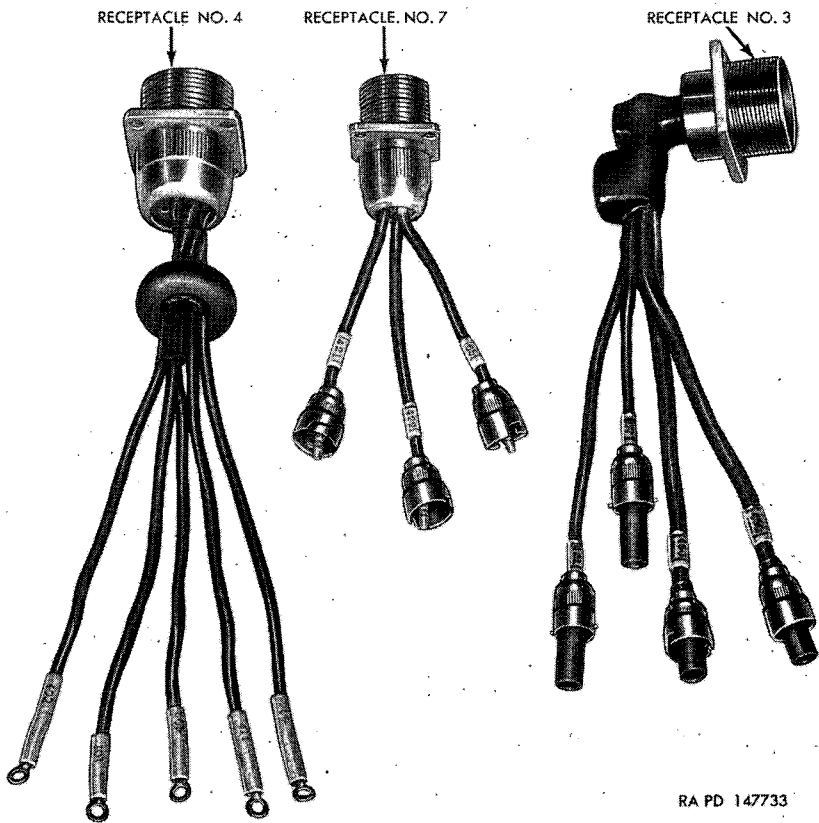

Figure 198. Hull accessories panel wiring harness.
a. GENERAL. The instrument panel has one wiring harness assembly (fig. 197) connecting all gages, switches, and warning signal lights to the connector receptacles at the rear of the instrument panel. The hull accessories panel has three wiring harness assemblies (fig. 198). Connectors No. 3 and 7 can be individually removed. Connector No. 4 is removed only with the heater control box.
c. HULL ACCESSORIES PANEL WIRING HARNESS (fig. 198).
- (1) *Removal*. Remove hull accessories panel (par. 201). The procedure for removing connectors No. 3 and 7 (fig. 198) is the same. Remove four screws securing receptacle to connector receptacle bracket at rear of accessories panel. Disconnect bell-type connectors and remove harness.